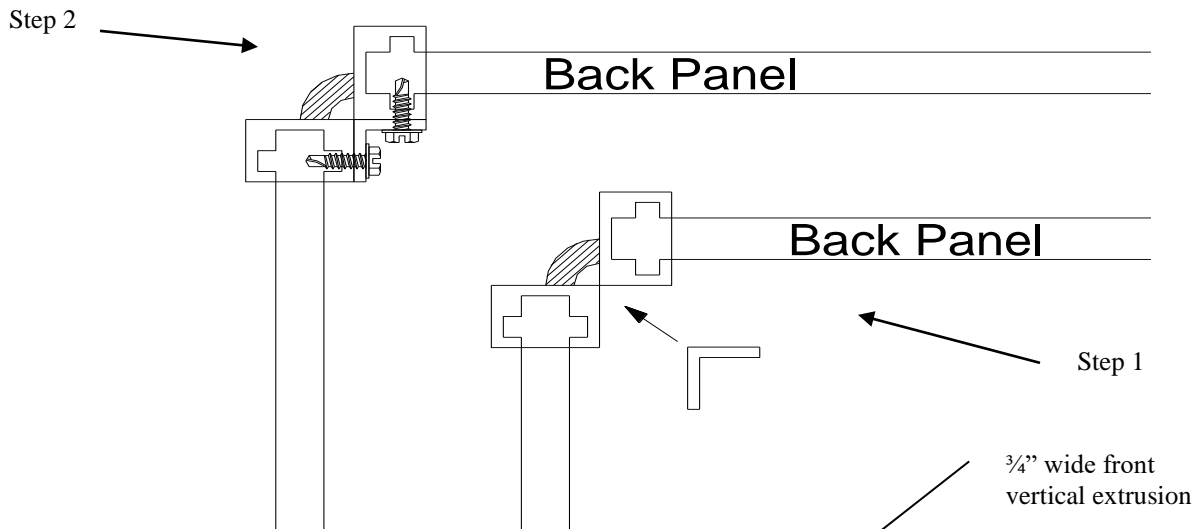

Figure 6.
1. Connect the first division panel to the first Back Panel using the 3/4" x 3/4" aluminum angle and #10 x 5/8" TEK hex washer head sheet metal screws (#2222). These screws are self drilling and do not require pilot holes. Using vise grips, clamp the 3/4" x 3/4" angle in place. See Figure 6. **These may be preinstalled on the division panels from the factory in certain cases.**
2. Connect the first Division Panel to the first back panel using the 3/4" x 3/4" aluminum angle and #10 x 5/8" TEK hex washer head sheet metal screws (#2222). Using vise grips, clamp the 3/4" x 3/4" angle in place. See Figure 6 above.